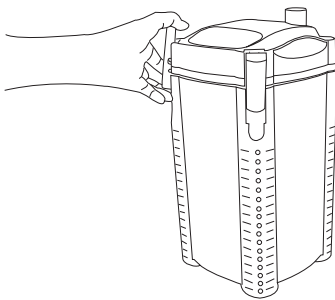

Fig 1
2. Open the filter unit. To do this release the 4 clips located on the corners of the filter. Fig 1